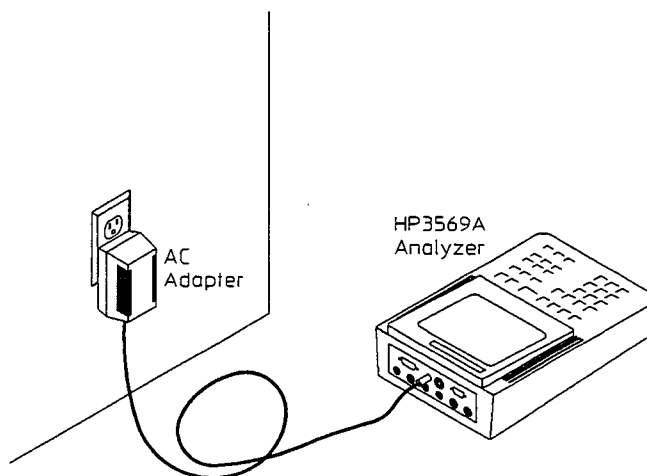

Figure 1-1.
3. Connect the ac adapter cable to the analyzer's battery charging socket labeled "ac adapter" located on the connector panel. See figure 1-1. The green LED near the socket indicates the battery is charging.